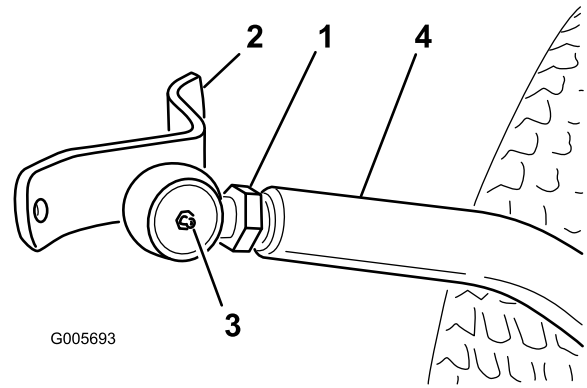

Figure 19
2. Screw ball joint into right hand push arm until center of ball joint is 2-3/8 inch (60 mm) away from front of push arm (Figure 19). Do not tighten jam nut.